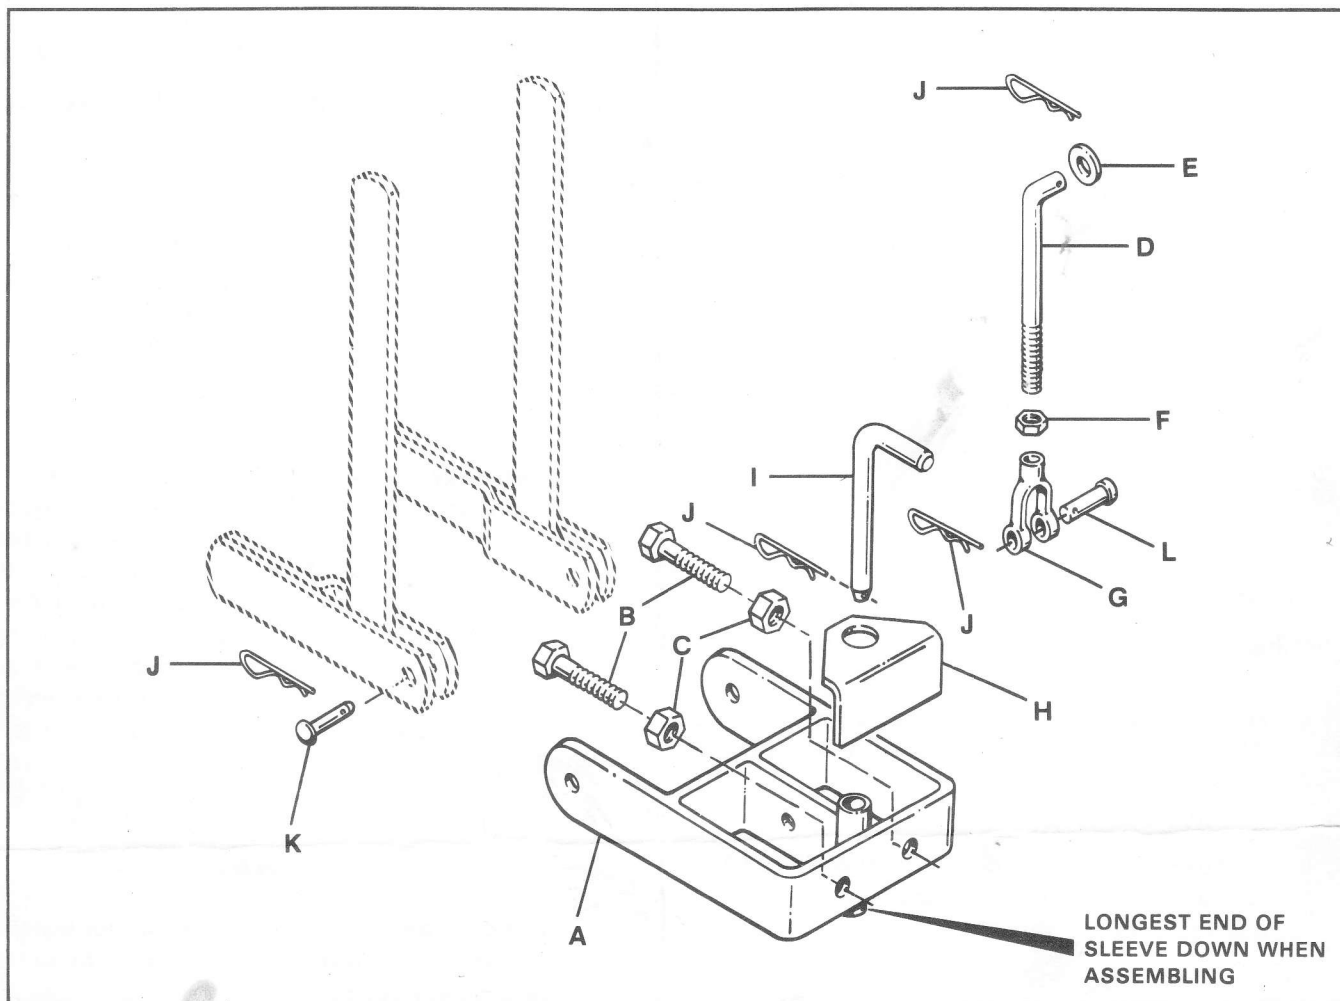

Figure 2. One Point Hitch Assembly
1. Attach the hitch assembly to tractor drawbar with attaching pins (K, Figure 2) and hairpin clips (J). The longest section of sleeve on hitch assembly (A) should face downward.
3. Attach adjusted lift rod between hitch assembly and rear lift assembly with yoke end down. Be sure to place a flat washer (E, Figure 2) on upper end of lift rod before installing hairpin clip (J). See Figure 2.
4. Place hitch pin (I) into sleeve. Secure with hairpin clip (J).